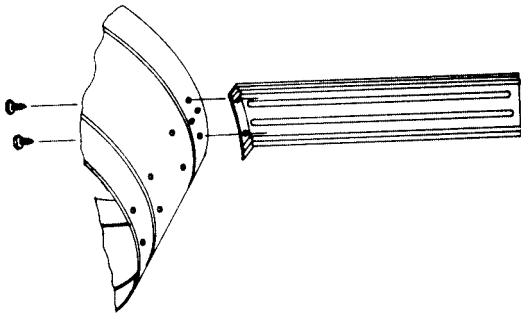

Figure 3 — Mounting Housing to Brackets
2. There are four sets of holes spaced 90° apart in housing, providing a choice of four depth positions. Reversing brackets produces eight positions. Select proper mounting holes to align bracket and mounting structure on louvers. (See Fig. 3.)